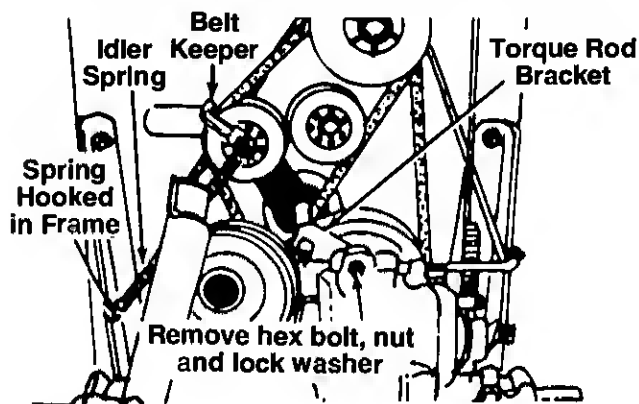

FIGURE 16.
3. Unhook the idler spring from the lawn tractor frame. See figure 16. Loosen the bolt which secures the belt keeper to the idler pulley.